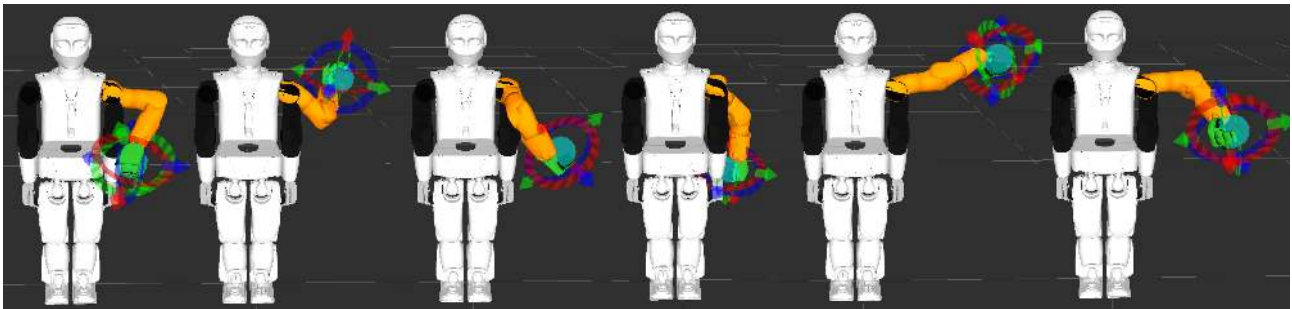

Figure 81: Random poses generated with the GUI
2. By clicking the “Update” button of the goal state, new poses can be randomized. Figure 81 shows a few randomly generated poses.
4. The GUI also allows the operator to define goal poses using the “flying end-effector” method. As shown in Figure 81, the 6DOF pose of the end-effector can be defined using the visual marker attached to it. The red, green and blue arrows define the translation of x, y and z coordinates respectively; the colored rings define the rotation around these axes, following the same logic.